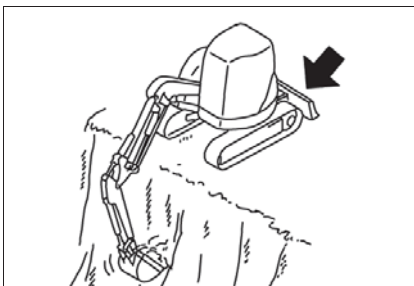

Fig. 186: Deep excavation
- We recommend using the first work position *(Fig. 186)* described above and to ensure that piston rod **A** does not touch stabilizer blade **B** under any circumstances.